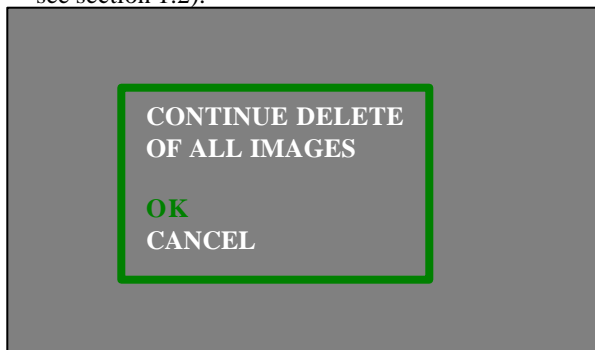

Figure 2.1.5a
**STEP 1)** Selecting "DELETE ALL" from the "REVIEW" menu allows the user to delete all the PICTURES/FILES contained in the cameras memory (see Figure 2.1.5a below).